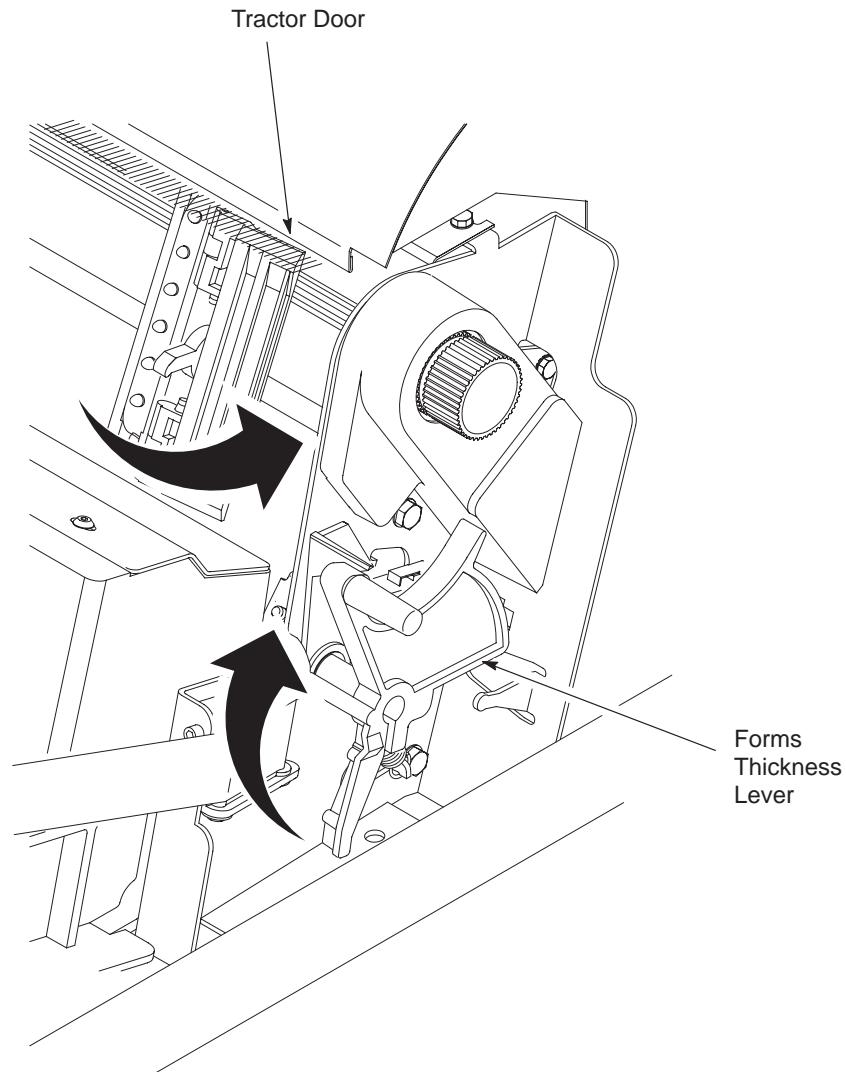

Figure 2–31. Forms Thickness Lever
3. On pedestal models, swing the operator panel out of the way. The operator panel can be pulled toward you to provide clearance. See Figure 2–30.
4. Raise the forms thickness lever as far as it will go. See Figure 2–31.